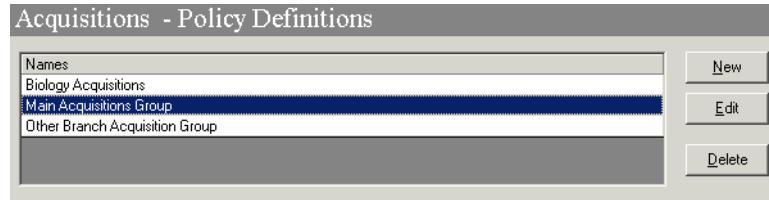

Figure 5-1. Edit Acq/Serials Group
3. Click the **Policy Definitions** button. Highlight the Acquisitions policy group that contains the ledger you are checking (see Figure 5-1).